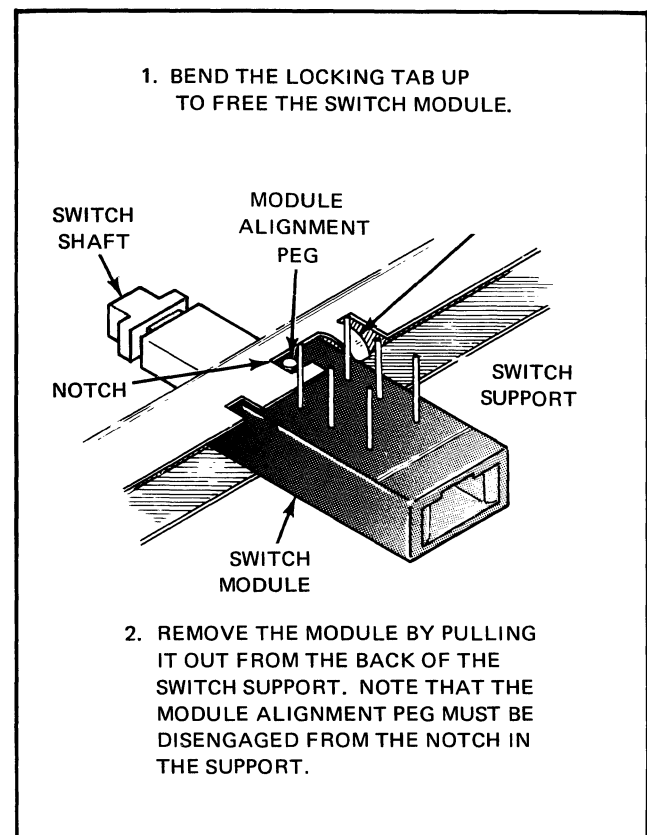

Figure 4-5. PUSHBUTTON SWITCH MODULE REPLACEMENT
- c. Unlock the locking tab on front switch support bracket and remove module (Figure 4-5).